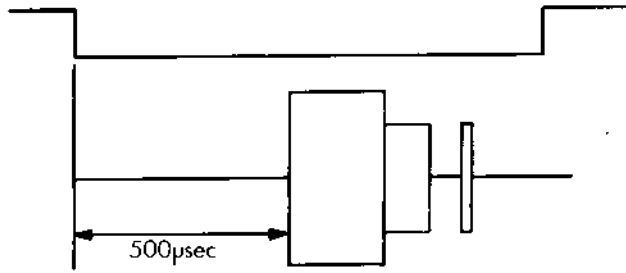

Fig. 5-1 Index burst waveform
- vi) Adjust VR201 so Index frequency is $200 \pm 2\text{ms}$ (See Fig. 5-1).
When the timing is not within this range, proceed with the following adjustment. (Refer to Fig. 5-1).